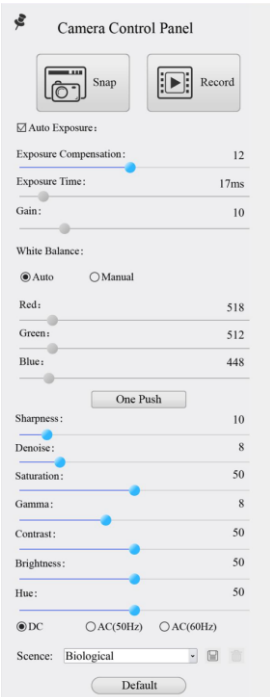

Figure 6 XCamView and Its Control UI
- After powering on, click the  2D→3D switching button on the comprehensive control toolbar below to view real-time 3D images, as shown in Figure 6
XCamView software operation UI is shown in Figure 6. It includes Camera Control Panel on the left side of the video window, Synthesis Camera Control Toolbar on the bottom of the video window.